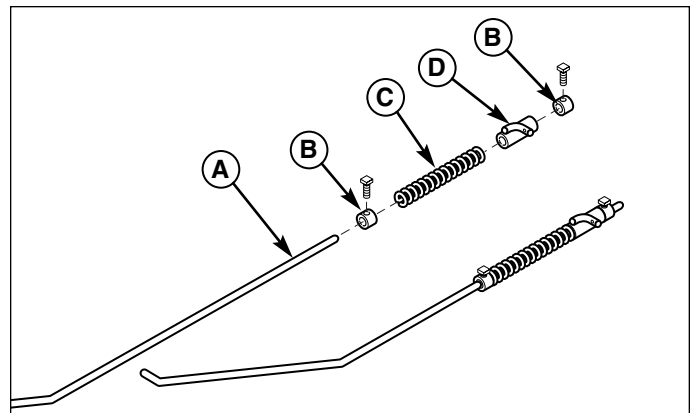

Figure 6. Assemble Lift Rod
- Install the set collars (B, Figure 6), spring (C), and rod guide (D) on the lift rod (A) as shown. Final adjustment of the set collars will be made after the hitch and attachment are installed.